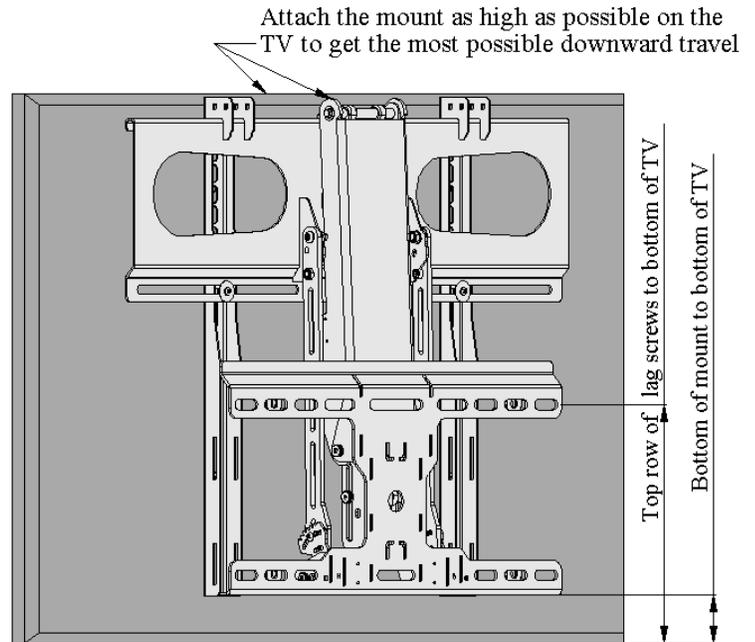
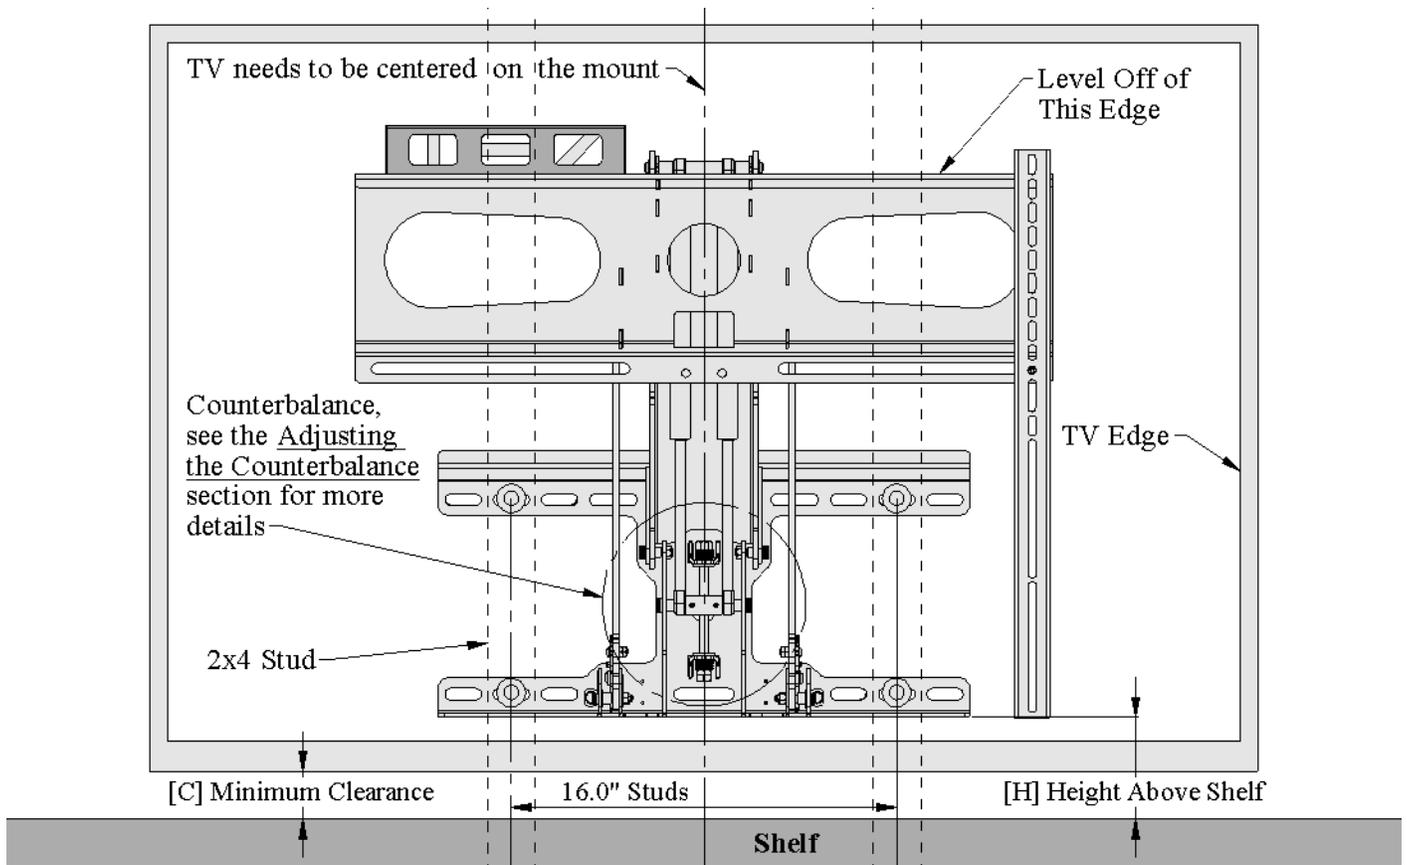

Figure 7, Mount Test Fitting
Figure 8, Positioning Mount on the Wall
- **The TV isn't level in all positions.** When attaching to the wall, level off of the Hook Plate Edge, NOT the plate that attaches to the wall, see Figure 8 on page 6.
4. Figure 7 and Figure 8 shows the important things to look for and measure.
7. Level the mount as shown in Figure 8, Positioning Mount on the Wall.
The TV Clearance Table shows the minimum clearance [C] needed between the shelf top and the bottom of the TV (or the bottom of an attached speaker, whichever is lower) for the mount to swing around the shelf. To find the clearance needed, find the shelf depth [D], in this example 8", and go down the column and find the corresponding minimum clearance height [C], which is 2.5". Figure 8 shows where to measure [C] and [H].
Detail from **Figure 8**.